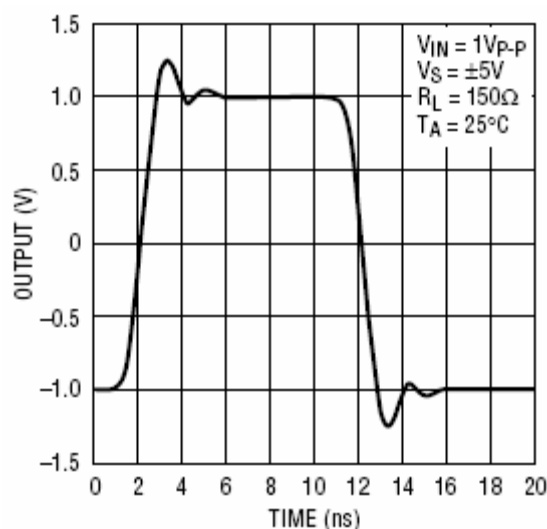

Figure 2. Typical Time-Domain Transmission Response (LT6555)
7. For video-signal evaluation, connect a component-video signal source to the A inputs and a monitor and/or video analyzer to the outputs, using equal-length cabling amongst the three video channels. Figure 2 shows a typical pulse response.